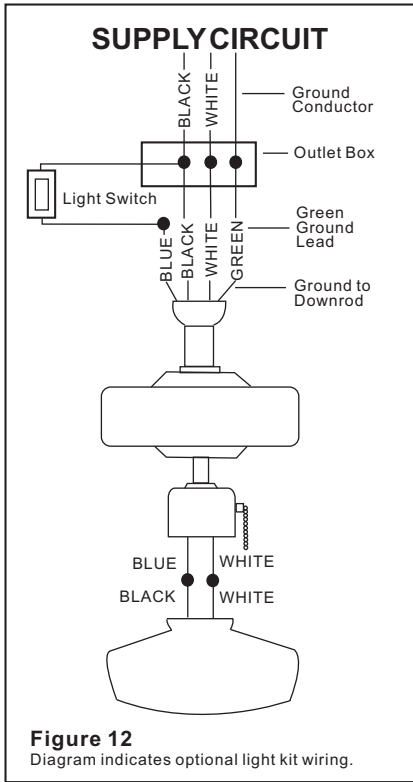
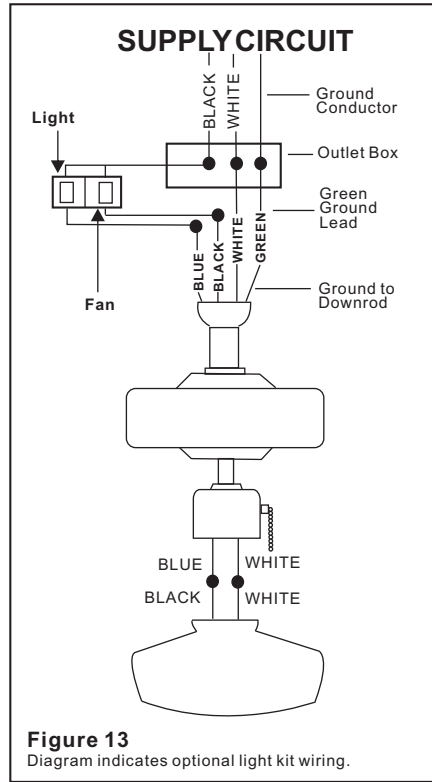

Figure 12
Figure 13
Step 5. Turn the connecting nuts upward and push the wiring into the outlet box. Figures 12 and Figures 13 illustrate the wiring connections for optional wall control (available at your Hampton Bay Retailer, the wire color out of wall control may vary, see wall control's installation manual for correct wire connections)